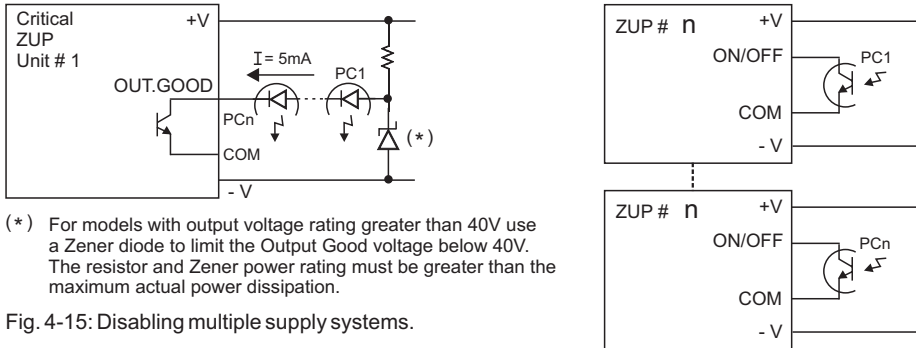

Fig. 4-15: Disabling multiple supply systems.
1. In multiple power supply systems, it is possible to disable all the units when a critical unit fails. Refer to Fig 4-15 for typical connection diagram.